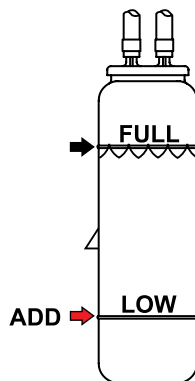

Figure 30. Coolant Recovery Tank
1. Verify that the coolant level in the coolant recovery tank is between the **FULL** and **LOW** markings as shown in Figure 30.